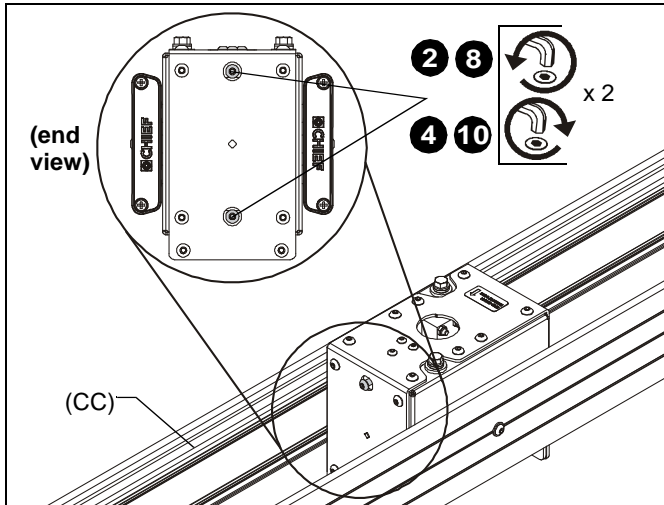
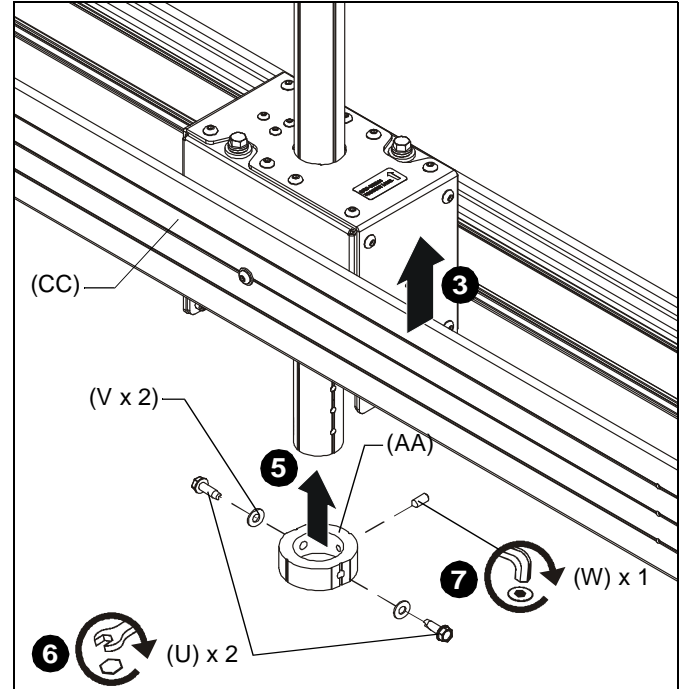

Figure 3
Figure 4
2. Loosen two 5/16" x 3-1/2" button head cap screws on end of housing until they no longer extend into the extension column area inside housing, but do NOT remove the screws completely. (See Figure 3)
3. Slide ceiling mount (CC) up from below onto installed column (not included). (See Figure 4)
4. Tighten two button head screws loosened in Step 2. (See Figure 3)
5. Slide bottom stop collar (AA) onto installed column, lining up holes in collar with holes in column.
6. Install two 5/16" x 1" self-tapping screws (U) through two 5/16" flat washers (V), bottom stop collar (AA), and into installed column. (See Figure 4)
7. Install and tighten 5/16" x 3/4" set screw (W) into bottom stop collar (AA). (See Figure 4)
8. Loosen two button head screws tightened in Step 4, and slide ceiling mount down extension column until it rests on the bottom stop collar (AA). (See Figure 4)
10. Re tighten two button head screws against column. (See Figure 3)